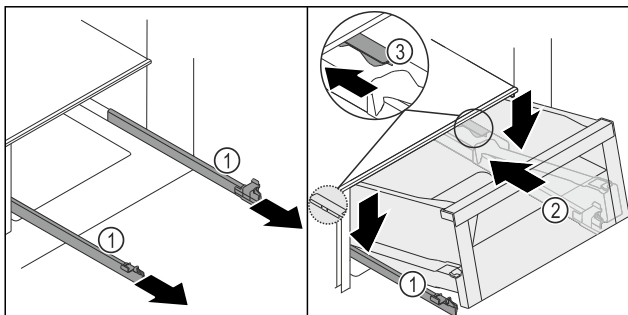
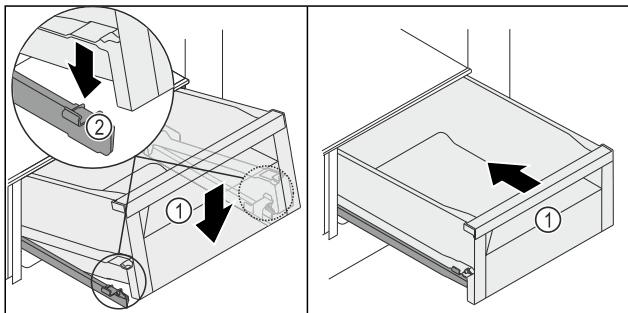

Fig. 211
Fig. 212
- ▶ Hold the rails Fig. 211 (1) firmly and place the drawer Fig. 211 (2) on the rails Fig. 211 (1) from above behind the stopper Fig. 211 (3).
- ▶ Slide the drawer Fig. 211 (2) backwards on the rails Fig. 211 (1) as far as it will go.
- ▶ Lower the drawer Fig. 211 (2) at the front so that the drawer slides into the clamp Fig. 212 (2) on the left and right.
- ▶ The drawer Fig. 212 (1) locks in audibly.
- ▶ Push in the drawer Fig. 212 (1).